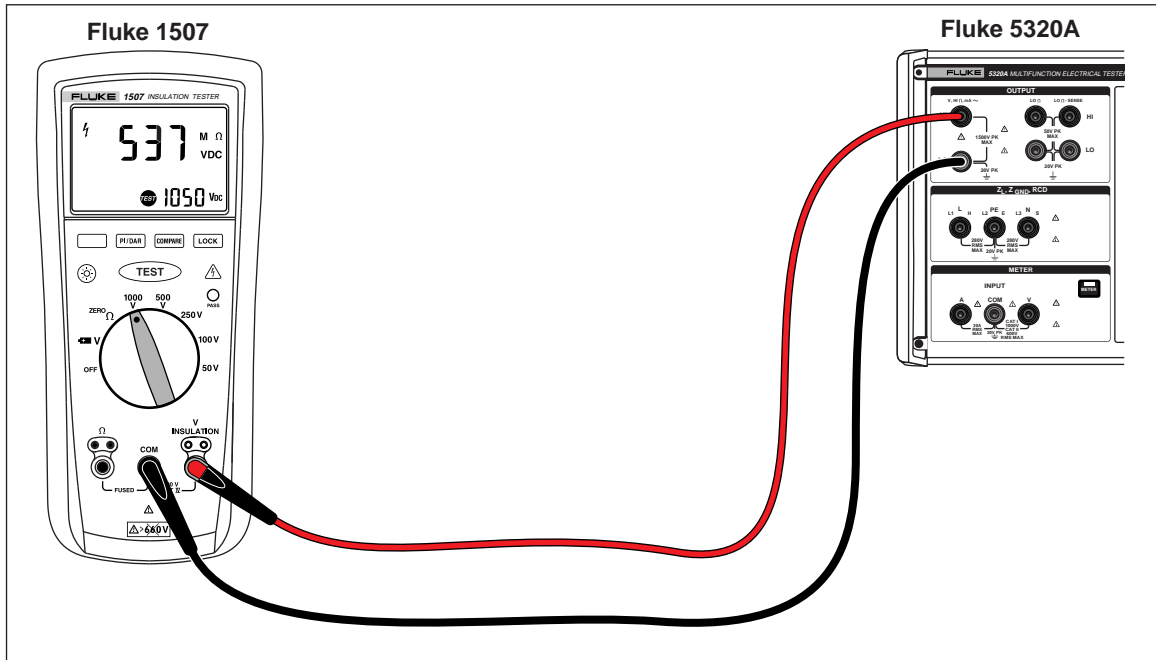

Figure 7-4. Calibrating Insulation Resistance of a Handheld Insulation Tester
The Calibrator's high resistance source function is designed for calibrating insulation resistance functions on megohm meters, installation testers, appliance testers and electrical safety analyzers. The high resistance function can also be used for calibrating ohmmeters in a specified resistance range. Figures 7-4 through 7-6 show the connections required for three different UUTs for an insulation resistance calibration procedure.
1. Using Figures 7-4, 7-5, or 7-6, connect the UUT to the Calibrator's **HI Ω HI** and **LO** output terminals.